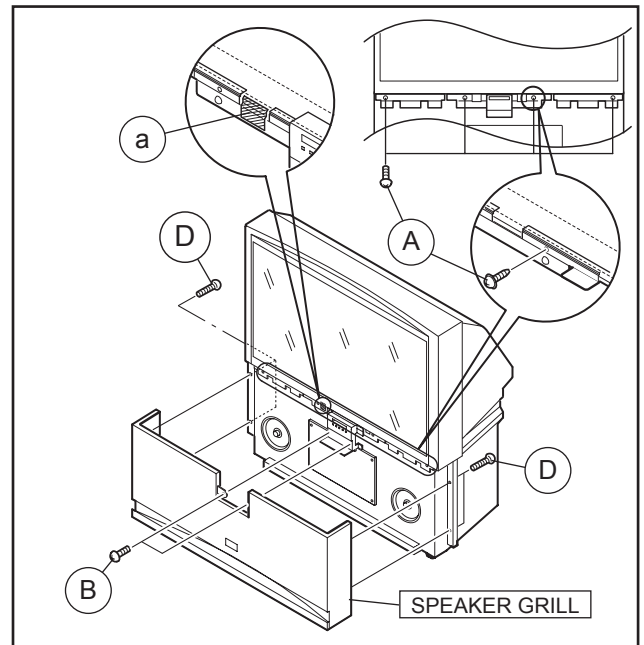

Fig.2
- (2) Remove the 2 screws [B] inside of the front door. [Fig.2]
- (3) Remove the 2 screws [D] on the left edge of the rear cover, and remove the 2 screws [D] on the right edge of the rear cover. [Fig.2]
- (4) Pull the speaker grill in front direction, and remove the speaker grill. [Fig.2]
- (5) Remove the 2 screws [A] on the left front panel bracket, and remove the 2 screws [A] on the right front panel bracket. [Fig.2]
- VOID seal [a] attached to the left front panel bracket in order to confirm that a person except JVC installation workers has disassembled the set. This seal is removed when the upper unit is removed, and the letters of "VOID" appears in the place where the seal. [Fig.2]
- (1) Lift the upper unit slowly, and then place the upper unit on the lower unit.
- (2) Adjust the front side of the upper unit to the brackets on the lower unit for attaching the upper unit.
- (3) Attach 2 screws [**A**] to the both side of the rear cover. [Fig.2]
- (4) Attach 2 screws [**A**] to the both edge of the rear cover. [Fig.2]
- (5) Attach the 4 screws [**A**] to the front panel bracket. [Fig.2]